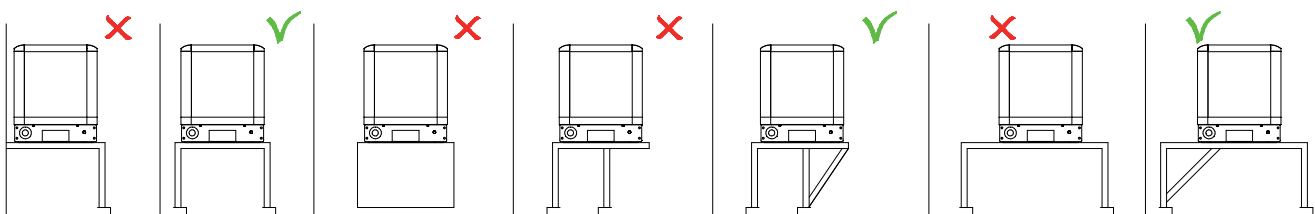

Figure 1: Mounting of the Whisper generating set. X = wrong, V = OK
1. Most important is the structure on which the generator is places to be stiff. See figure 1. Directly below the rubber mountings the structure should be supported vertically to the superstructure of the ship.